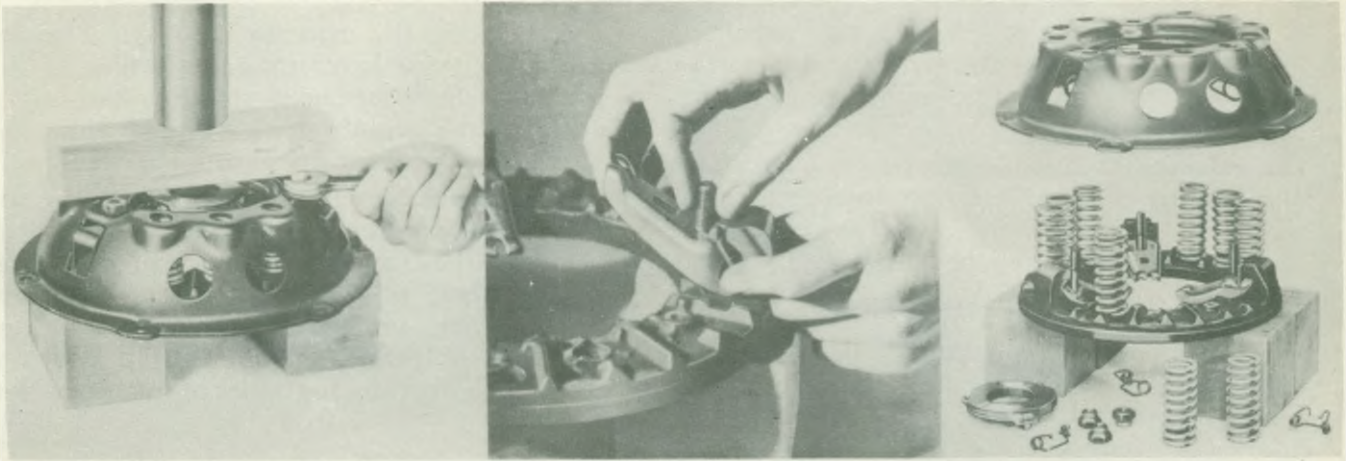

Fig. 2. Dismantling of clutch.
- Fig. 2). Move the strut upwards into the slots in the pressure plate lug and over the ridge on the short end of the lever and drop it into the groove formed in the latter. Fit the remaining release levers in a similar manner.